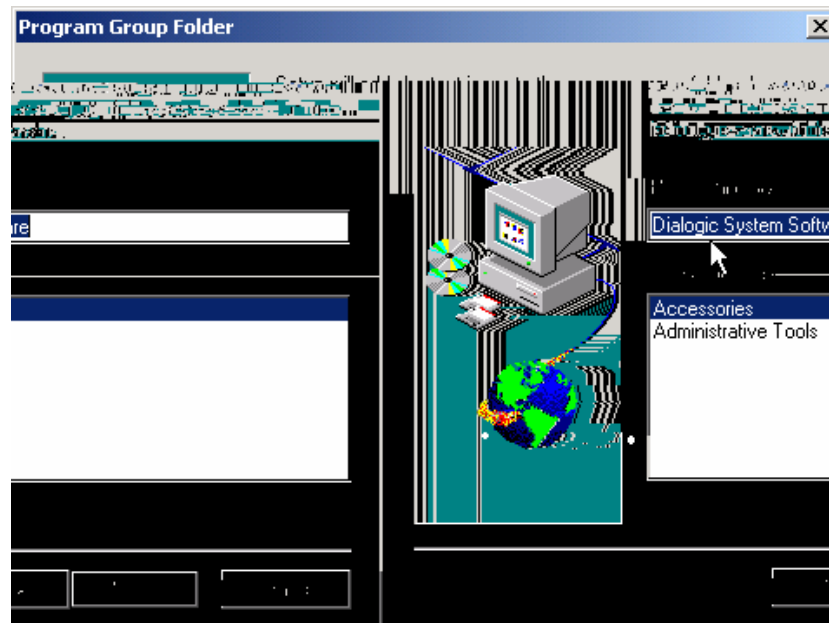

Figure B.10. Specifying the Program Group Folder
6. The **Program Group Folder** dialog box will appear, as shown in **Figure B.10**. Specify a program folder, and then click the **Next** button to continue.